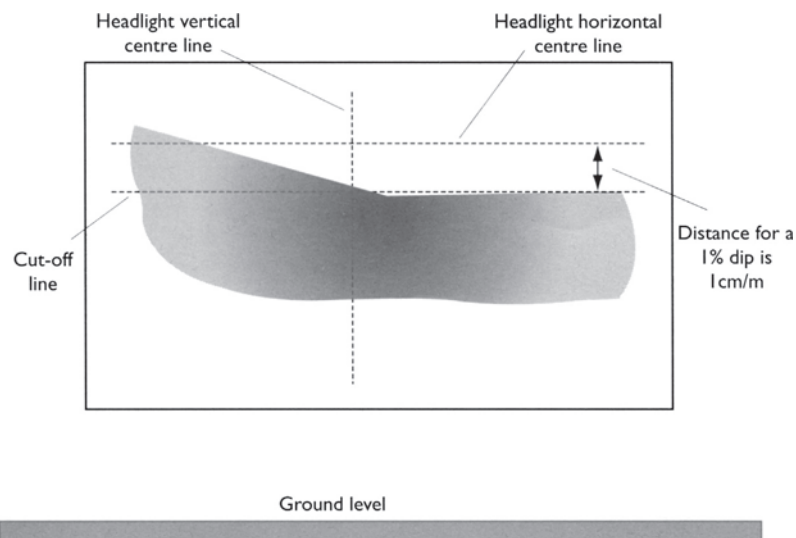

Figure 8.32 Asymmetric dip beam pattern
- 2 Mark out the aiming board as shown in Figure 8.32.